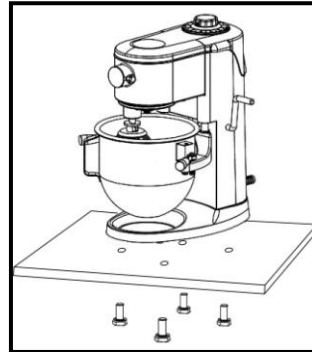

Figure 1
- You may place the mixer on bench which is capable of supporting a load of 25kg. For operation stability, please punch four holes on the table and fix SM-500A onto the table by four screws. Please see **Figure 1**.